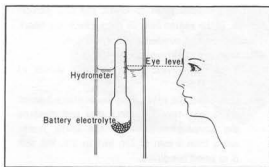

Fig. 112
- (1) Check the battery electrolyte level.
- (2) Measure the specific gravity of battery electrolyte with a hydrometer. Place a glass cylinder vertically and suck the electrolyte slowly. When the electrolyte level rises to the eye level as shown, read the scale on the hydrometer. (Fig. 112) If the specific gravity is 1,200 (as corrected 20°C or 68°F), recharge the battery.
- (3) If the electrolyte level drops excessively, check the charging system.
- (4) When distilled water has been added, measure the specific gravity after the battery has been sufficiently charged.